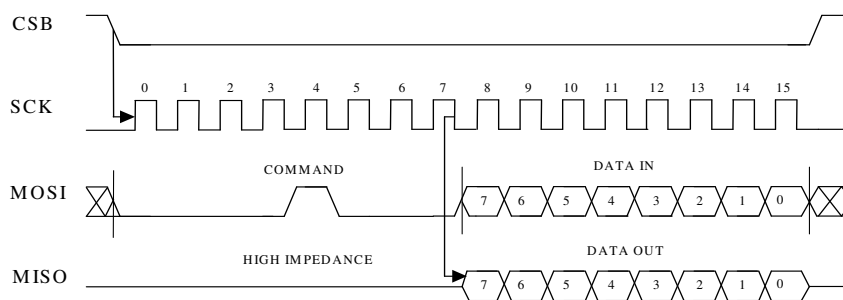

Figure 5. One command and data transmission over the SPI
**Read and write temperature data register (RWTR):** Temperature data register can be read during normal operation without affecting the circuit operation. Temperature data register is loaded in every 150  $\mu$ s, and the load operation is disabled whenever the CSB signal is low, hence CSB has to stay high at least 150  $\mu$ s prior the RWTR command in order to guarantee correct data. The data transfer is as presented in Figure 5 and data is transferred MSB first. In normal operation, it doesn't matter what data is written to temperature data register during RWTR command and hence all zeros is recommended.